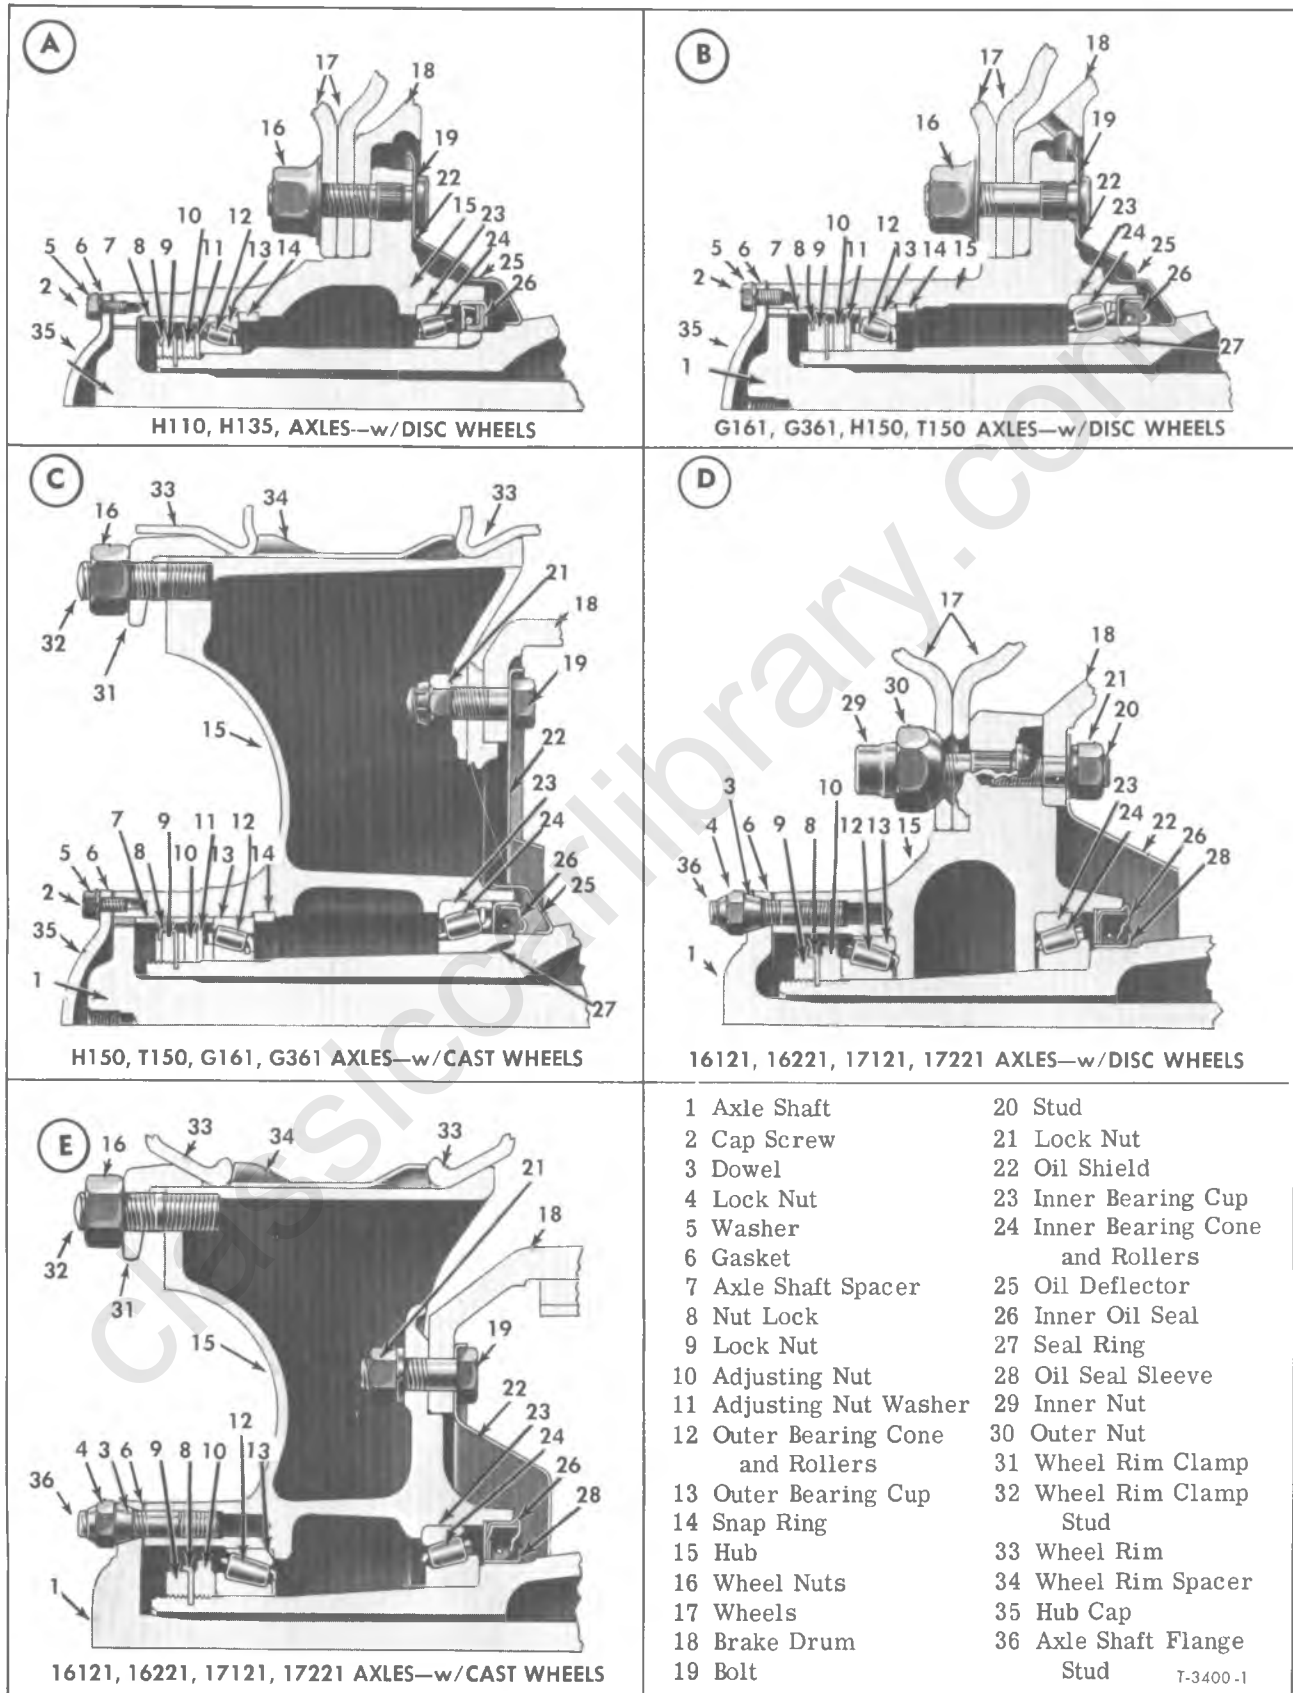

Figure 2—Rear Hubs, Bearings, and Oil Seals
Rear hubs on all series trucks are mounted to axle housing tube on opposed tapered roller bearings as shown in figure 2. Hubs, bearings, and oil seals are identified with the type of rear axle. Refer to "Service Parts Identification Decal" to determine type of axle used on a specific vehicle.
(Refer to Figure 2)
2. On Type E in figure 2, lift wheel (hub) and drum assembly straight off axle housing, using care to prevent outer cone and roller assembly from dropping out of hub. Remove outer bearing cone and roller from hub.
3. On Type D figure 2, carefully pull hub assembly straight off axle housing, using care to prevent outer cone and roller assembly from dropping out of hub. Remove outer bearing cone and roller from hub.
4. Examine axle shaft flange studs (Views D and E, figure 2) for damaged threads or bent studs. Clean up threads or replace studs as necessary. On Views A, B and C, figure 2, check for damaged threads in tapped holes in outer end of hub. If threads are damaged, holes can be filled, drilled, and tapped, otherwise hub must be replaced. On hubs having internal splines, check condition of splines in outer end of hub. If any damage is evident, replace hub.